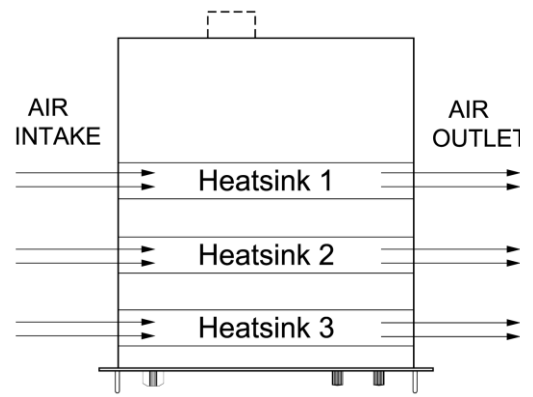

fig 10 - 1
- The internal construction of the power supply is such that no dust will reach the sensitive control circuitry, the heat sinks in a tunnel will be cooled by forced air (see fig. 10 - 1)